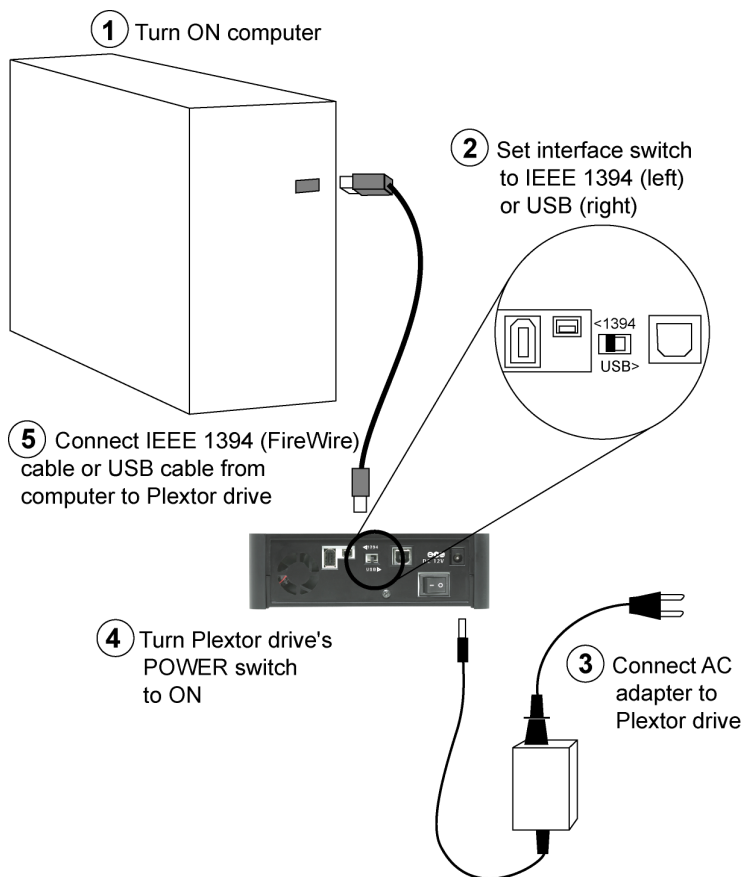

Figure 19: Connecting the AC adapter and USB or FireWire cable
3. Connect the AC adapter to your PX-750UF as shown in Figure 19.